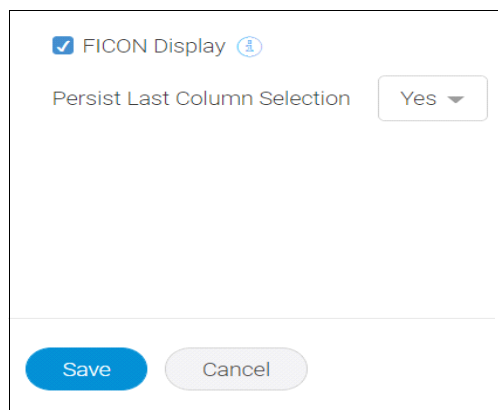

Figure 6-10 Selecting user preferences
3. Select the **FICON Display** option. Most users select **Yes** for Persist Last Column Selection. When set to Yes, display customization persists after logging out and logging back in. When done, click **Save**, as shown in Figure 6-10.